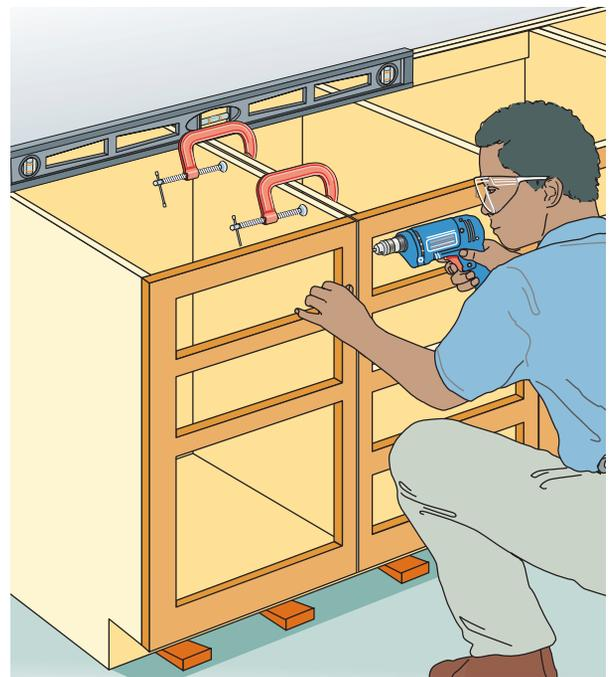

Figure 27-23 Connecting Cabinets
7. Install the adjacent cabinets in the same way. As you install each cabinet, clamp it to the previous cabinet and fasten the two together permanently, as shown in **Figure 27-23**. Some carpenters run two screws through the edge of one face frame into the face frame next to it. They drill and countersink pilot holes first. Then they install slender trim-head screws that are just long enough to penetrate ¾" into the face frame. Other carpenters prefer to bolt the cases together. The bolt heads and nuts should be countersunk.